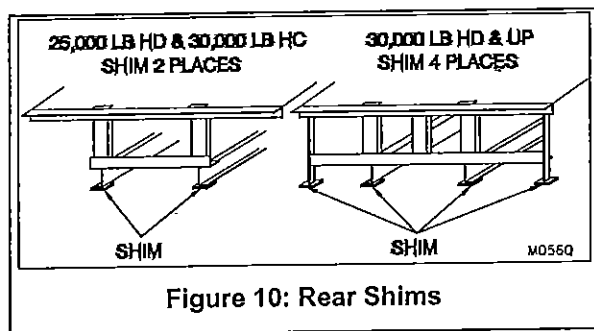

Figure 10: Rear Shims
1. Place shims (3" x 4" x 3/16") under rear frame until top rear of dock leveler is flush with rear curb angle. (See Figure 10, page 7 for shims placement.) Tack weld into position.